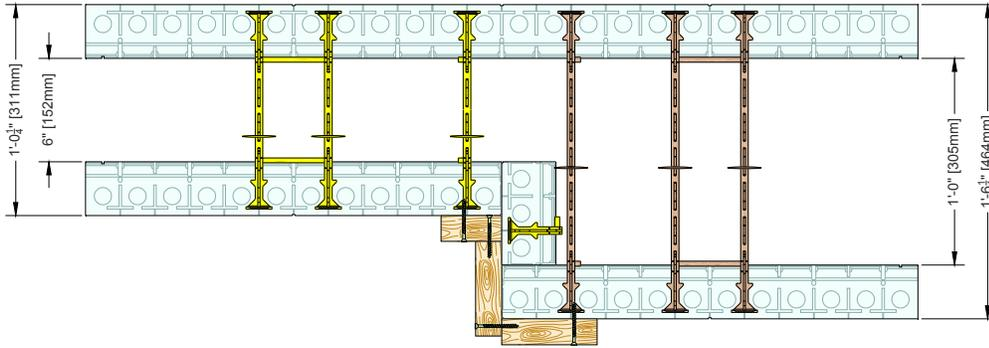

Figure 74: Horizontal (plan view) Wall Width Transition
- In-fill the gap left at the transition point by cutting scrap panels to fit at 90o to the wall line (shown below in Figure 74: Horizontal (plan view) Wall Width Transition)